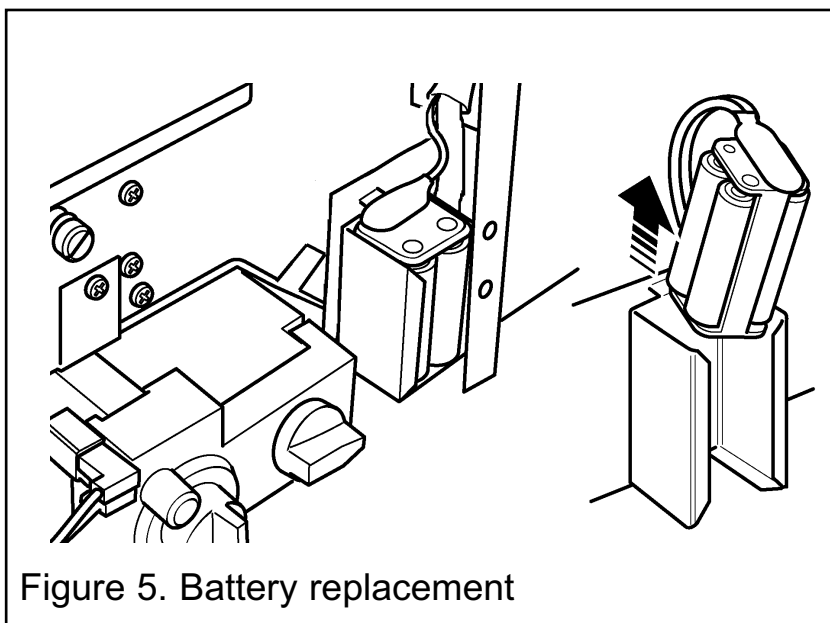

Figure 5. Battery replacement
- The battery case is at the right side. Lift the plastic battery holder out of the metal case and detach the batteries (See figure 5).